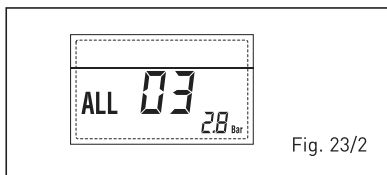

Fig. 23/2
- C.H. FLOW SENSOR ANOMALY ALARM 05 (fig. 23/4)